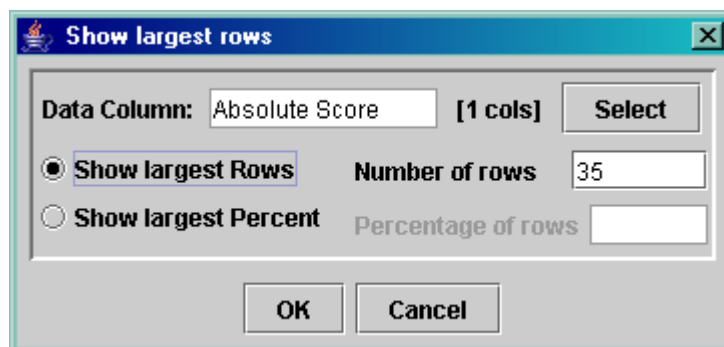

Figure 4. Show Largest Rows Dialog
2. Alternatively, if you click on the Show Largest *N* Rows icon  from the toolbar. The **Show largest rows** dialog (Figure 4) will appear. (Note: when you bring up the dialog, the Data Column will not yet be selected, which is unlike the picture in Figure 4.)